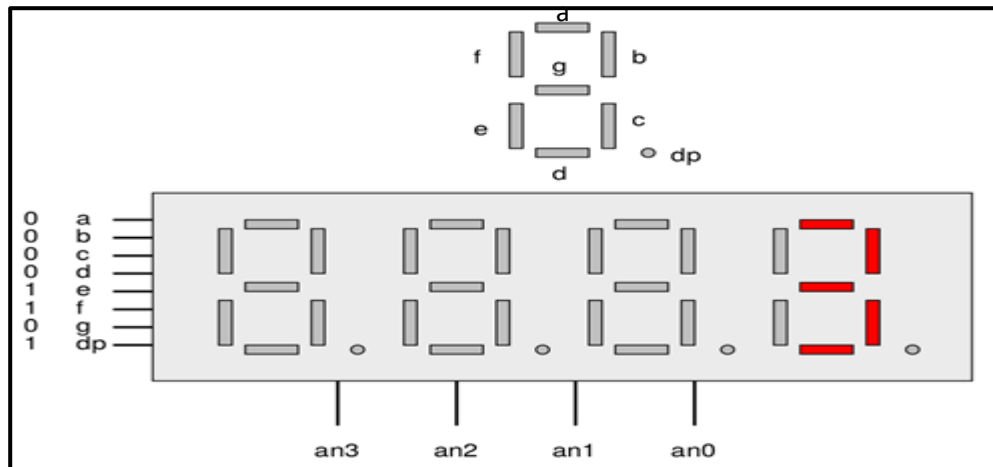

Figure 15. 7-segment Display in Basys3 Board
- ii. The 7-segment display is shown in Figure 15.
- To print digit 3, segments a, b, c, d, g need to be turned on, as shown in Figure 15.